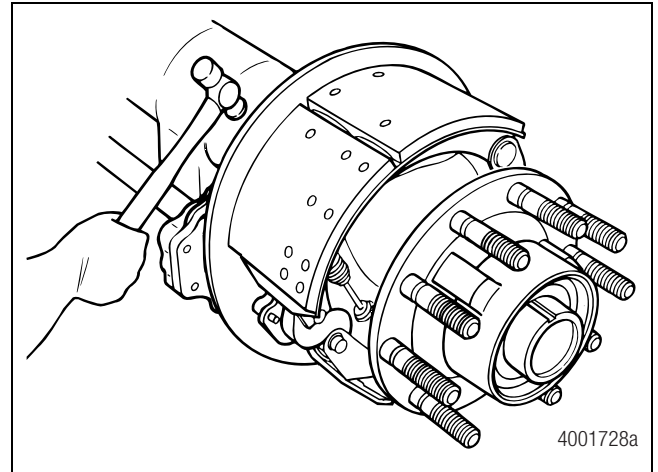

Figure 3.17
- A. Tap lightly on the rough part of the axle with a hammer while pulling the hub from the spindle. Tapping may loosen the hub assembly for easier removal. Figure 3.17.